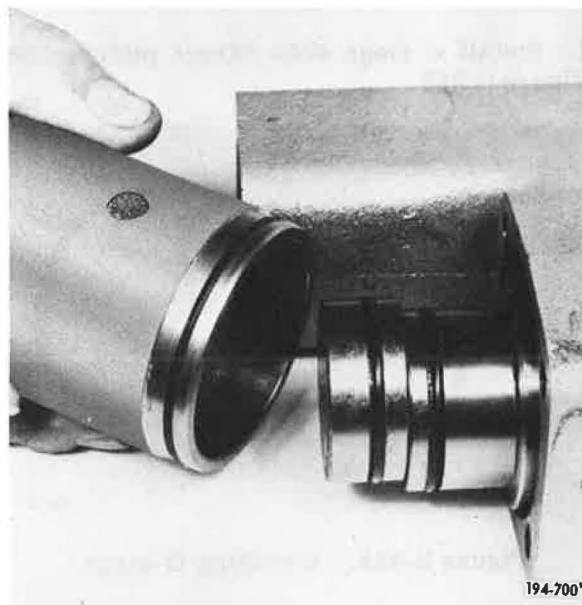

Figure 5-855. Installing Shift Cylinder
12. Install Hi/Direct shift cylinder onto shift cover, by sliding it over the end of the Hi/Direct shift rail. See **Figure 5-855**.